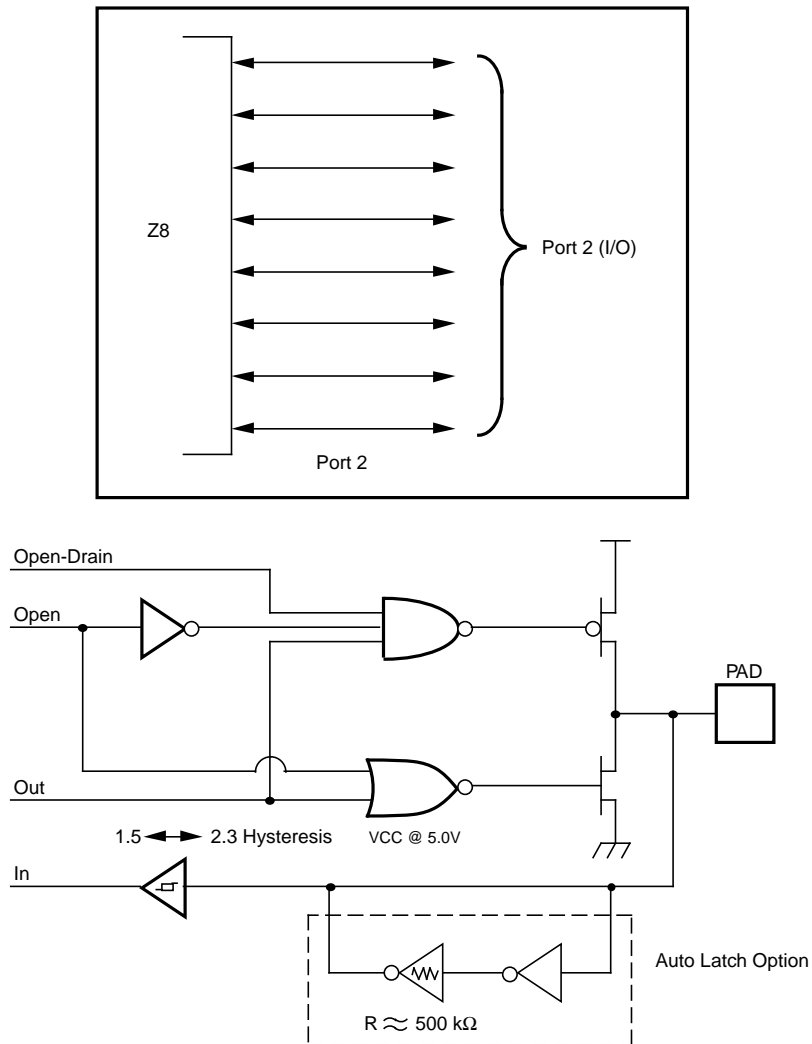

**Figure 8. Port 0 Configuration**
**Port 0, P02-P00.** Port 0 is a 3-bit bi-directional, Schmitt-triggered CMOS compatible I/O port. These three I/O lines can be globally configured under software control to be inputs or outputs (Figure 8).